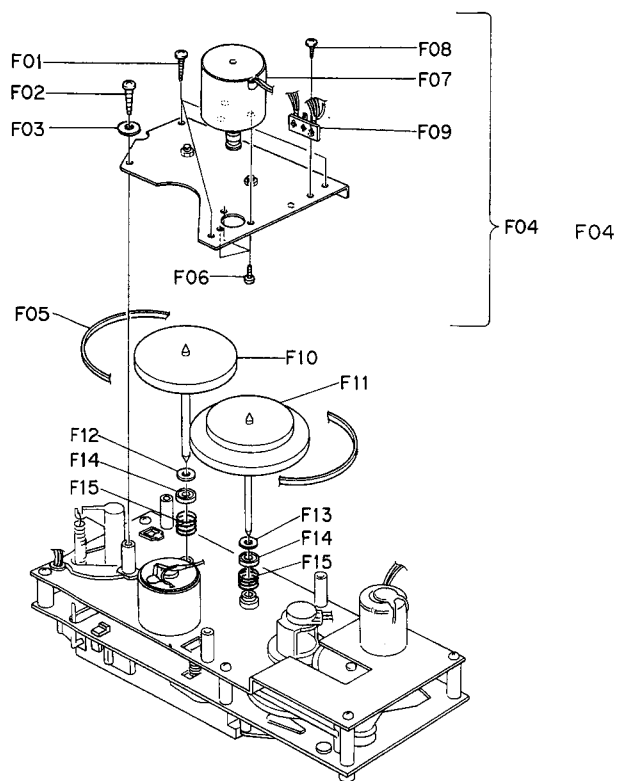

Fig. 2.7
Refer to Fig. 2.7.
- (1) Refer to Fig. 2.7. Remove Flywheel Holder Ass'y referring to item 2.15.
- (2) Remove F01, F02 and F03, then disassemble F04 (Sub Mechanism Chassis Ass'y).